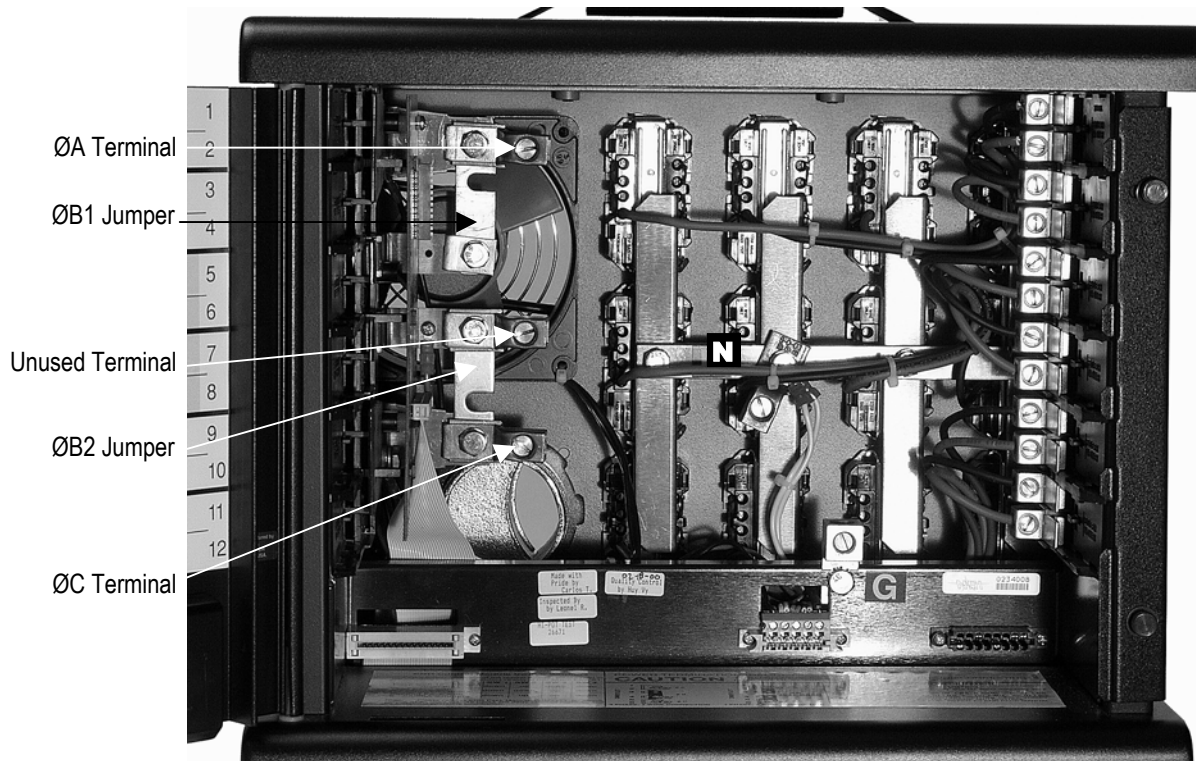

Figure 3 - Phase Conversion
1. Loosen the four bolts on the dimmer power feed busses using a 7/16" socket wrench. See figure 3.